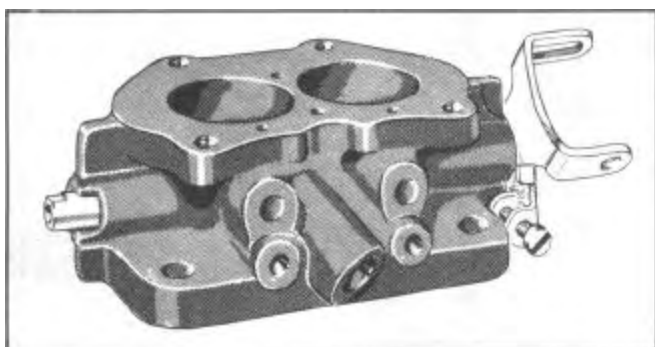

FIGURE 65
1. Install all parts controlling IDLE OPERATION. Install throttle shaft and lever assembly, Figure 65. (Back out throttle lever adjusting screw.)